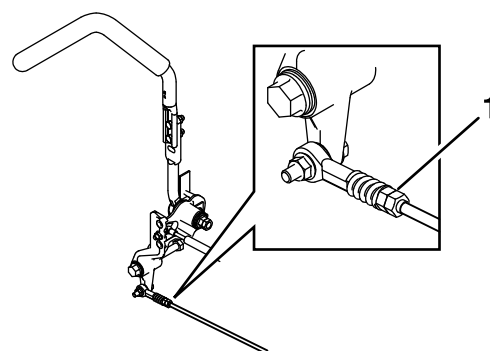

Figure 70
7. Bring the motion control levers into the neutral position. Adjust pump control rod lengths by rotating the double nuts on the rod in the appropriate direction until the wheels slightly creep in reverse (Figure 70). Move the motion control levers to the reverse position and while applying slight pressure to the lever allow the reverse indicator springs to bring the levers back to neutral. The wheels must stop turning or slightly creep in reverse.